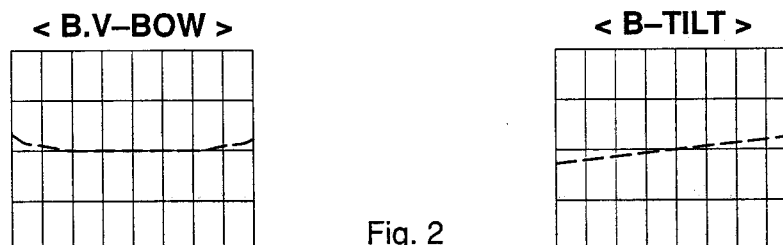

Fig. 2
- (16) Finally, do the adjustment for dynamic convergence of blue (B) to overlap on the green (G).
- (17) If the dynamic convergence of blue (B) is unable to overlap well on the green (G) as shown in Fig 2, do the adjustment for each variable resistor R7341 (B.V-BOW) and R7339 (B-TILT).